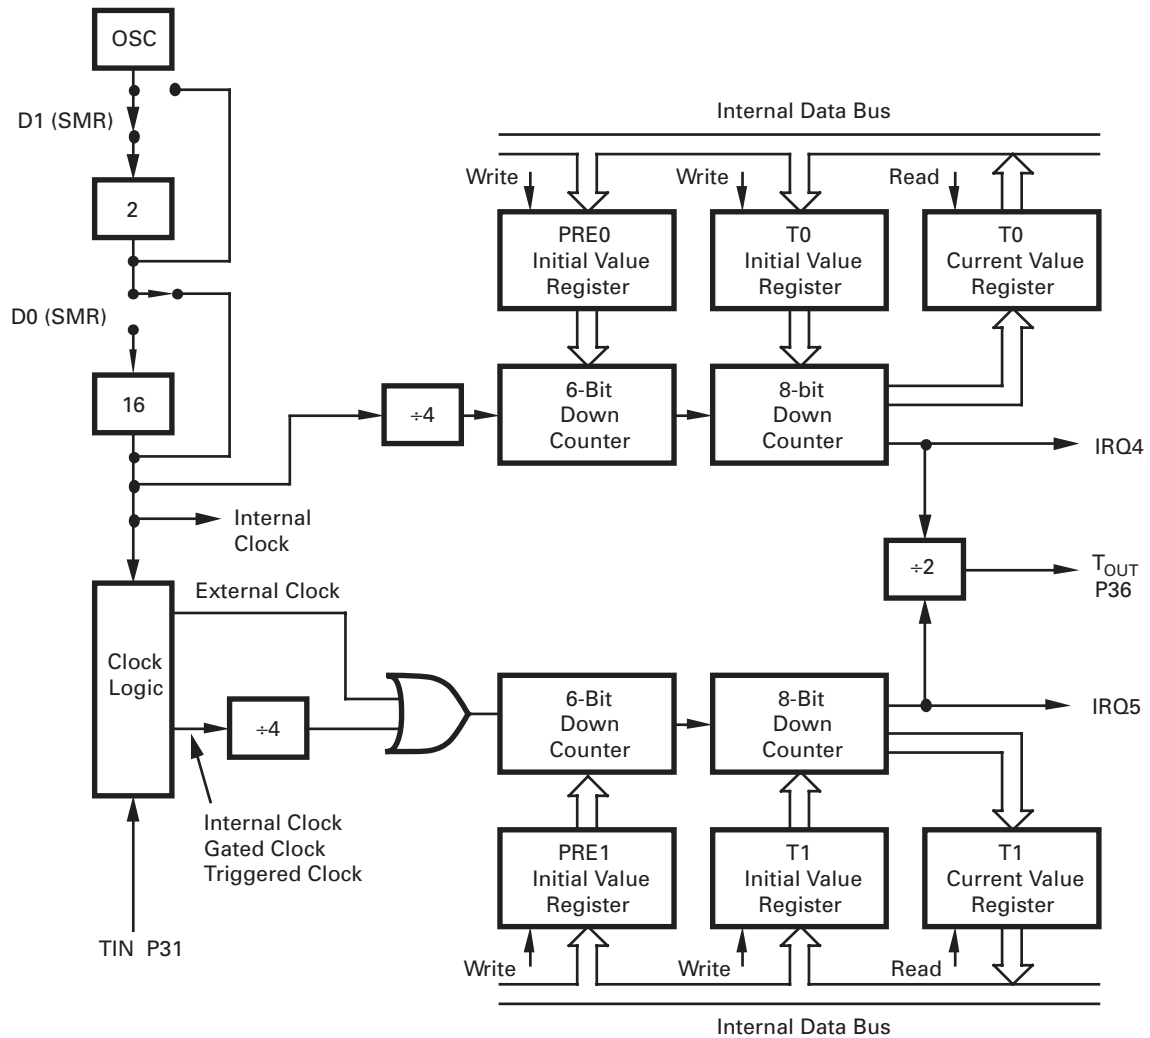

Figure 22. Counter/Timer Block Diagram
**Counter/Timers.** There are two 8-bit programmable counter/timers (T0–T1), each driven by its own 6-bit programmable prescaler. The T1 prescaler is driven by internal or external clock sources; however, the T0 prescaler is driven by the internal clock only (Figure 22).